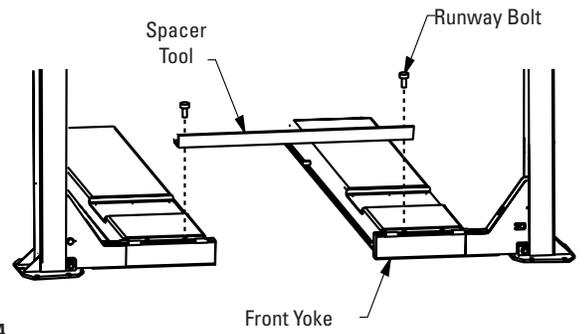
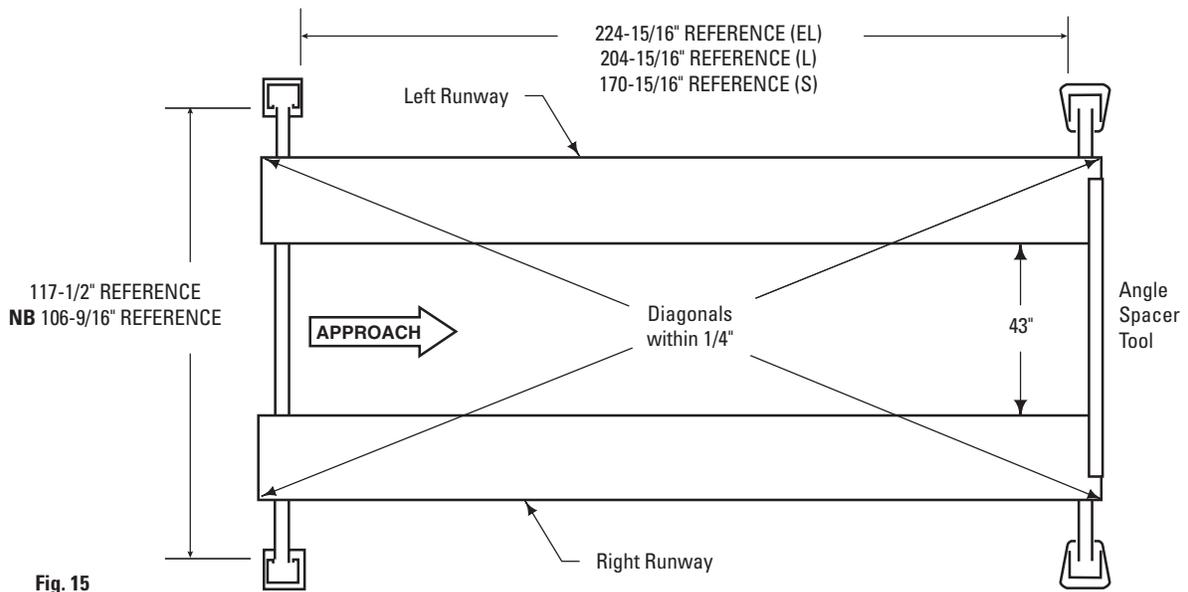

Fig. 14
Fig. 15
- A. Square up runways. Install spacer bar and bolts, to help maintain the runway spacing, Fig. 14. Adjust runways until diagonals are equal. Check lift location in the bay. Check dimensions side-to-side, equal to within 1/8", Fig. 15.